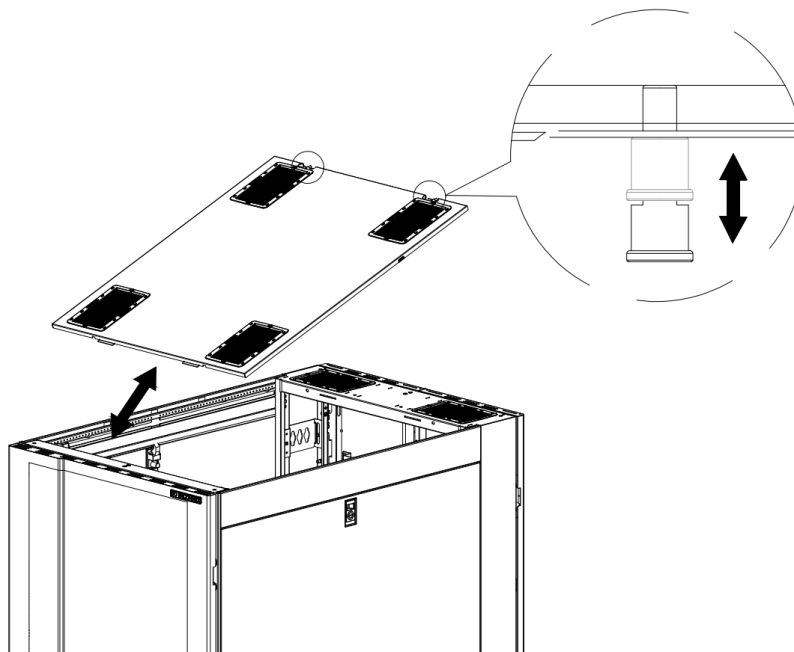

Figure 6.1.1
- Continue lifting the top panel at an angle until its front edge comes out of the front frame. (Figure 6.1.1)